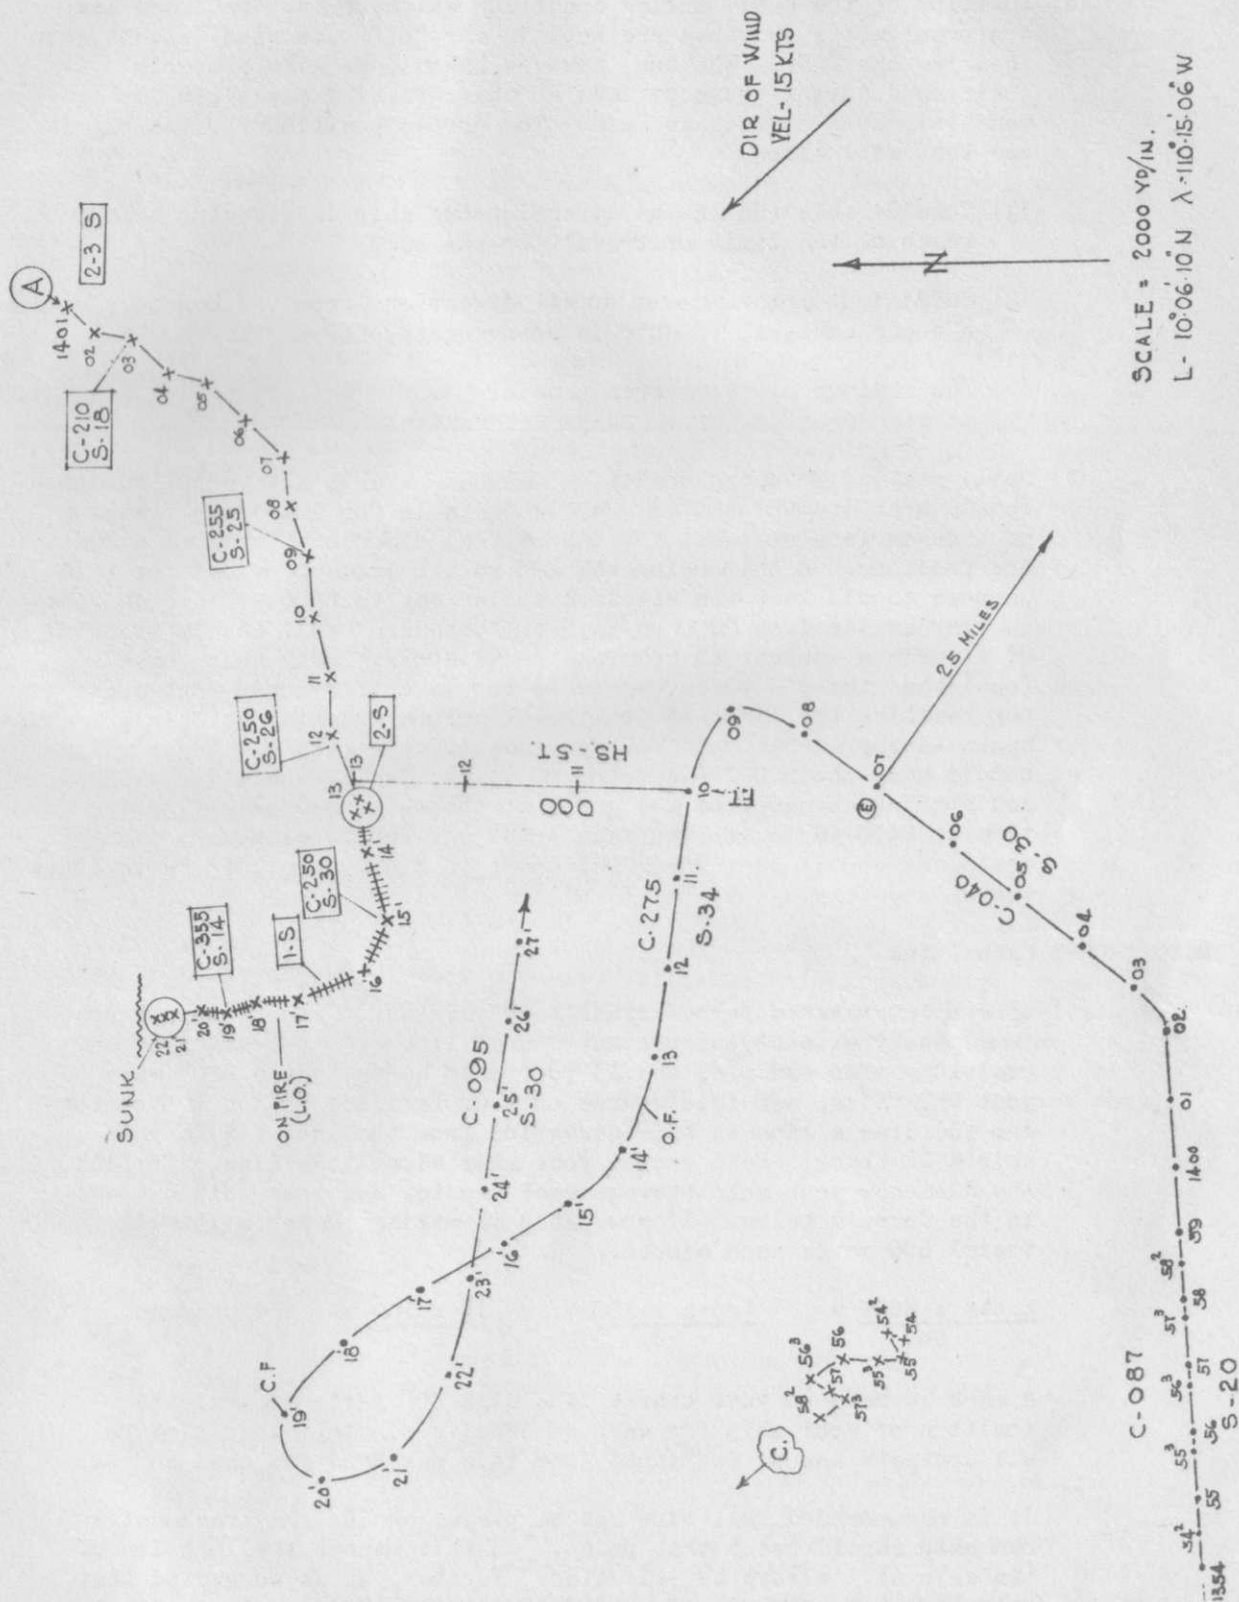

FIGURE 22
The two sample plots (Figure 21 and Figure 22) portray the use of certain symbols and abbreviations set forth in this manual.
- (g) In figure 22 the torpedo track is dead-reckoned to cross the targets prospective track.
- (h) In figure 22 compare the smoothness of own track to the wavy track of the target. This is the result of own ship's course being taken from the dead reckoning tracer while the target's track is being plotted. The weaving in his track is the result of radar error. In determining his course use a "mean line" through the plots.